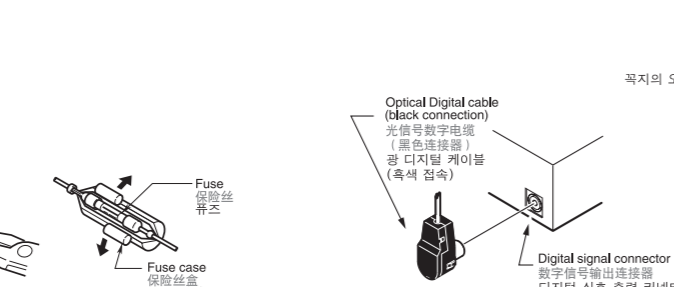

Figure 11 / 图 11 / 그림 11
There are various types of fuse holder. Do not let the battery side touch other metal parts. (Figure 11)
5. Insert the black connector securely into the digital signal connector until it locks. (Figure 11)